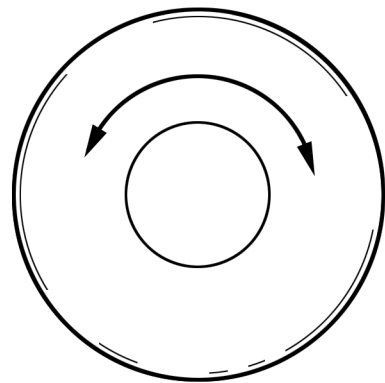

Fig. 21
- Turn the handwheel in the opposite direction to the normal direction (fig. 21) until the needle rise clamp rests against the machine's housing.